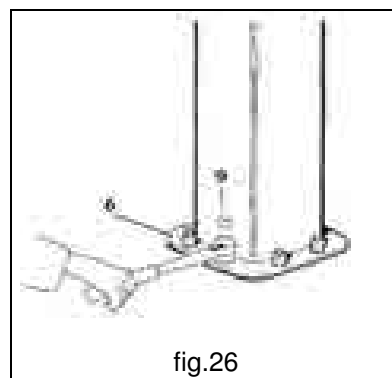

fig.26
5. Screw tight the nuts **6** using a dynamometric spanner, applying the clamping couples (see table on page 12) based on the diameter of the logbolts, checking the nuts afterwards for unscrewing with the relative safety nuts **9** (fig. 26)